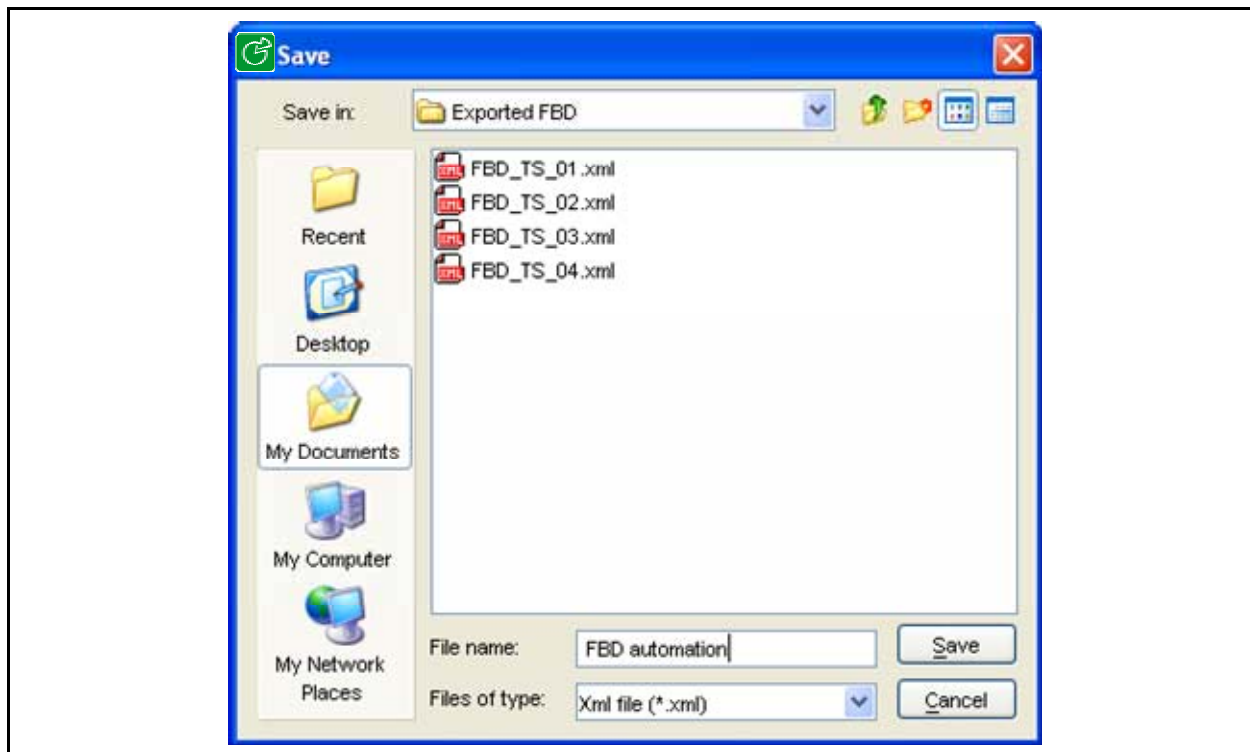

FIGURE 187: SELECTION OF THE DESTINATION FOLDER AND THE FILENAME
- the FBD list (see figure 187)